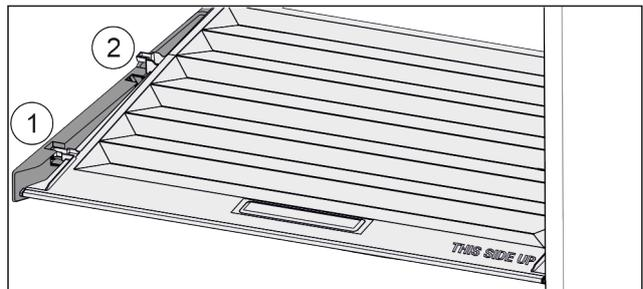

Fig. 48
- ▶ Pull the lid up at the front in the retaining parts to the opening Fig. 48 (1).
- ▶ Lift from the back and pull it up and out Fig. 48 (2).